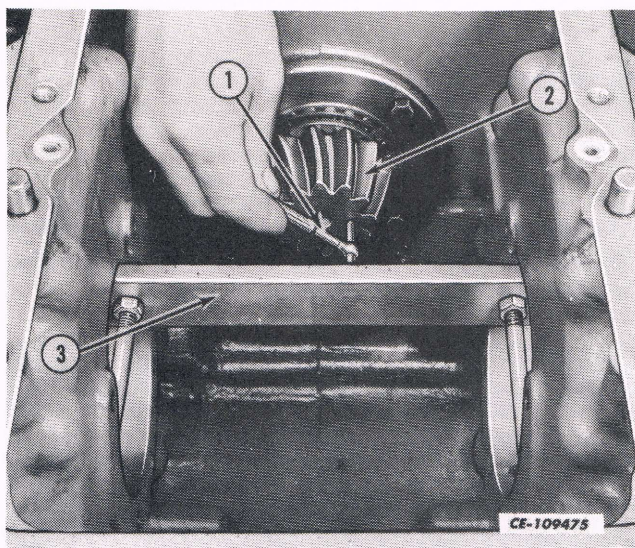

Fig. 19
1. Install the PLT-700-2 pinion shaft checking tool in the differential bearing bores in the rear frame (Fig. 19). Be sure each end of the gauge bar is in full contact with the differential bearing bore.
2. Using a telescoping gauge (1), measure the distance between the gauge bar and the face of the bevel pinion (2). See Fig. 19.